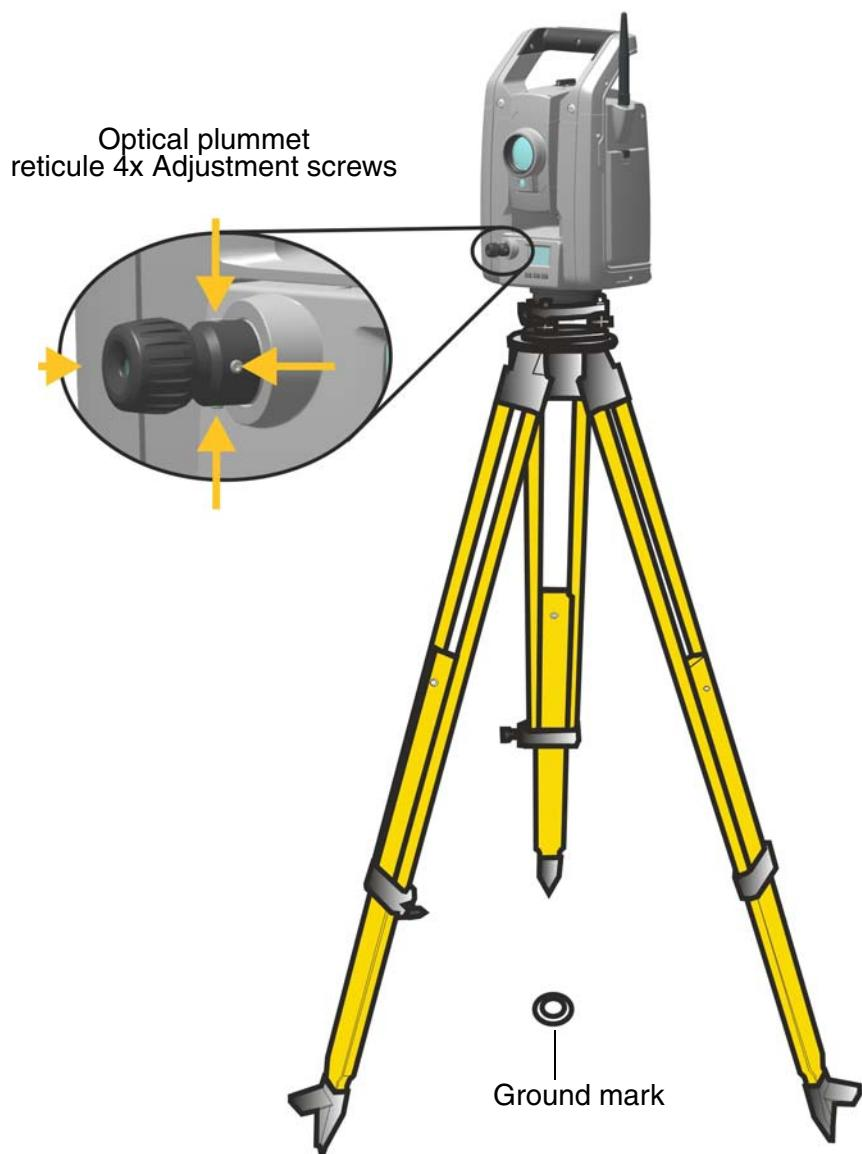

Figure 4.10 Optical plummet adjustment
1. Set up the instrument and level it over a ground mark so that the tripod height is 1.5 m (± 0.1 m) (4.920 ft. (± 0.328 ft.)). Figure 4.10